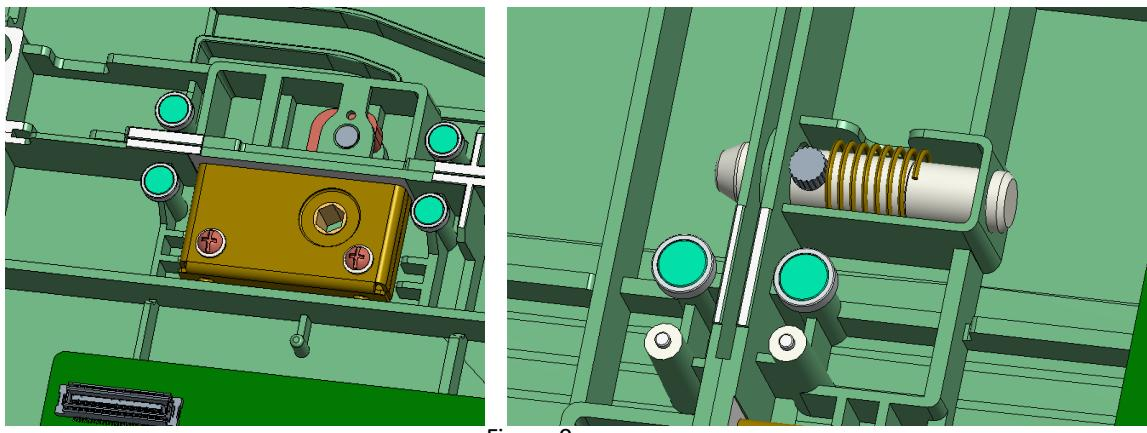
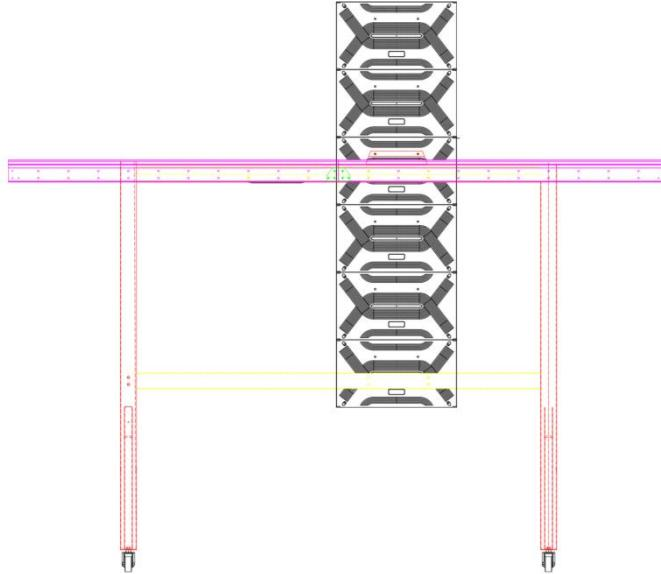
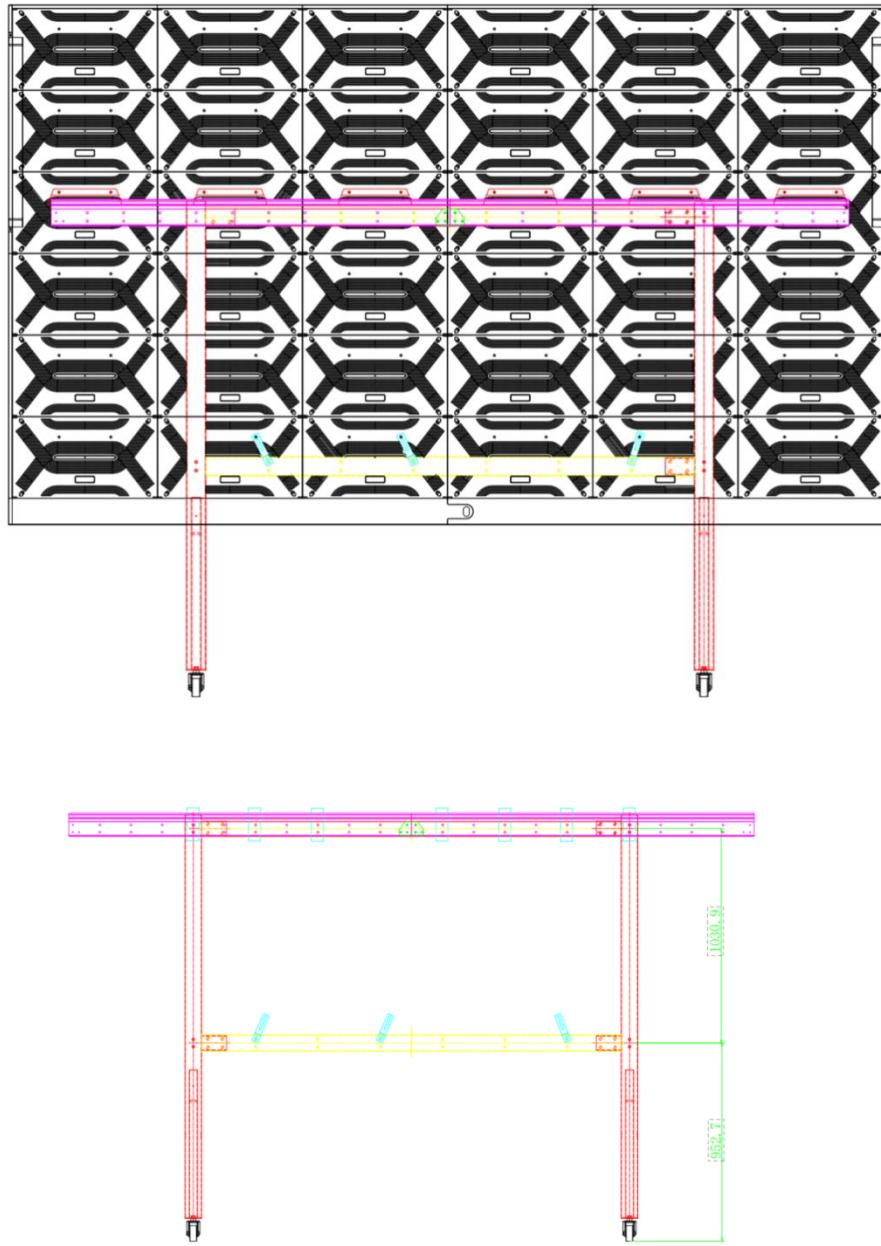

Figure 9
Figure 11: Viewed from back
Figure 12
7. When individual columns are complete, hang them on the Hanging Bar starting with the center column (see Figure 11 & Figure 12) and adding additional columns to either side moving outward. Place columns in position next to each other with the spring latches of one column aligned to the holes of the adjacent column (see Figure 9).
the side hook lock with a corresponding Allen wrench to completely lock the two columns of cabinets. The installation positions of the second row wall-mount bar and Z-shaped connector are shown in Figure 12. Please ensure that the device is centered when mounted (The connector plates and screws are provided in the stand packaging).